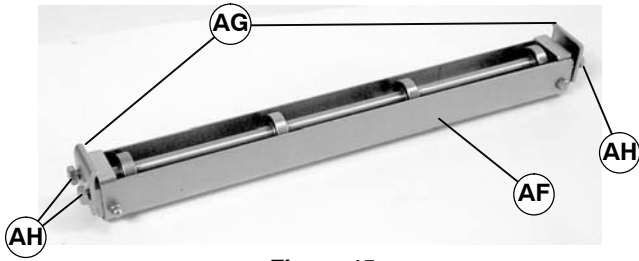
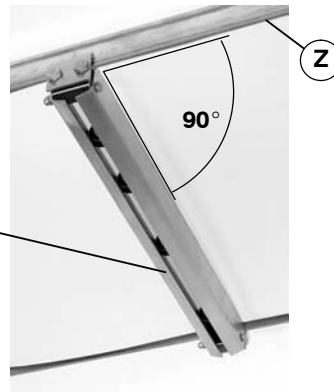

Figure 15
Figure 16
- Loosely attach two clamp plates (AG of Figure 15) on roller and guard assembly (AF) with four screws (AH). Do not tighten screws.
- Attach return roller assembly (AI of Figure 16) on conveyor (Z). Make sure return roller assembly is perpendicular with conveyor frame as shown. Tighten screws (AH of Figure 15) to 80 in-lb (9 Nm).